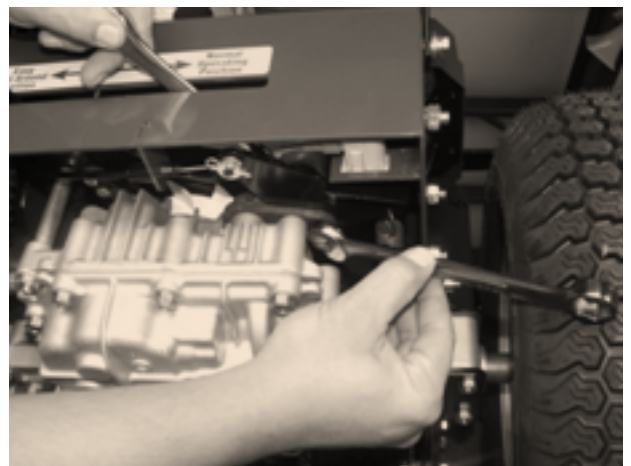

Figure 30
1. Using two 17mm wrenches, loosen brake arm bolt **Figure 30**.